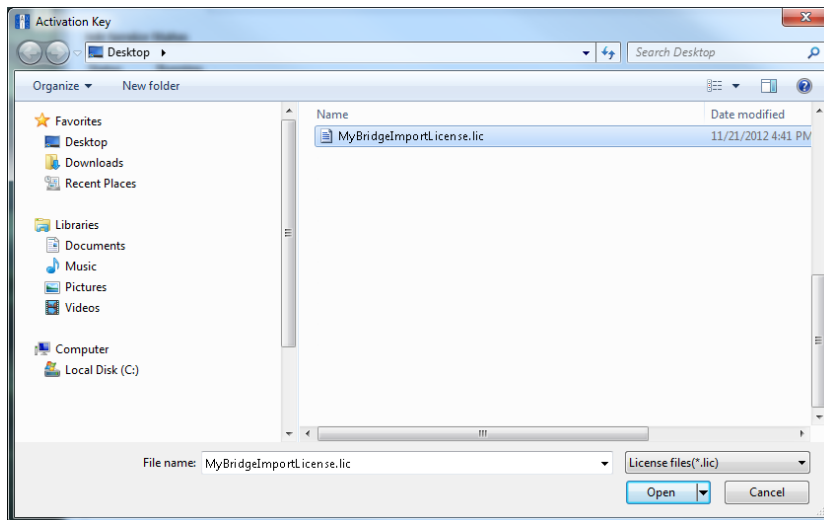

Figure 1-3. Activation Key
- 3 Click **Activate Bridge Import License**. When the *Activation Key* dialog box opens, navigate to the license file and select it (Figure 1-3, page 6).